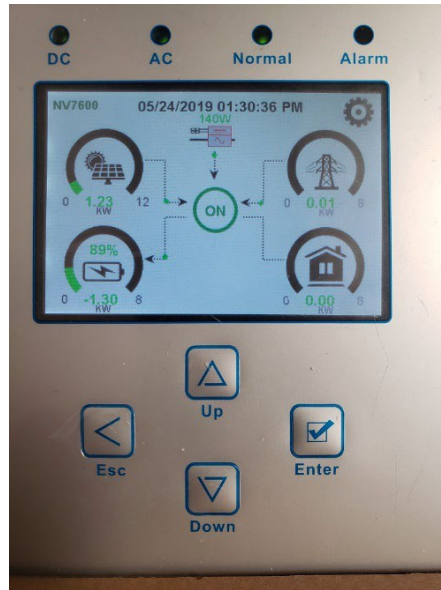

Figure 20
The Operation and Display Panel consists of four (4) indicators across the top, four (4) function keys at the bottom, and an LCD display that indicates the operating status and the input/output power information (Figure 20).